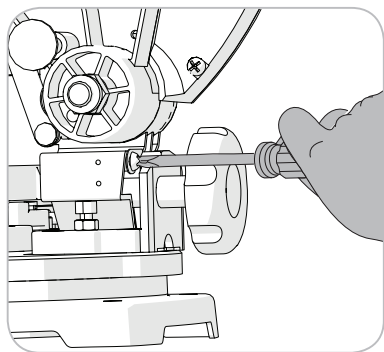

Fig. 10
- Loosen the Bevel Pointer screw using a #2 Phillips screwdriver. (Fig. 10)